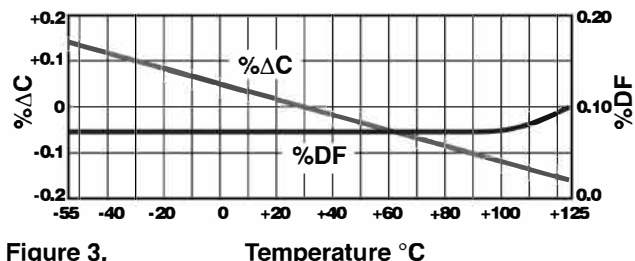

Figure 3. Temperature °C
**Effect of Temperature:** Both capacitance and dissipation factor are affected by variations in temperature. The maximum capacitance change with temperature is defined by the temperature characteristic. However, this only defines a “box” bounded by the upper and lower operating temperatures and the minimum and maximum capacitance values. Within this “box”, the variation with temperature depends upon the specific dielectric formulation. Typical curves for KEMET capacitors are shown in Figures 3, 4, and 5. These figures also include the typical change in dissipation factor for KEMET capacitors.